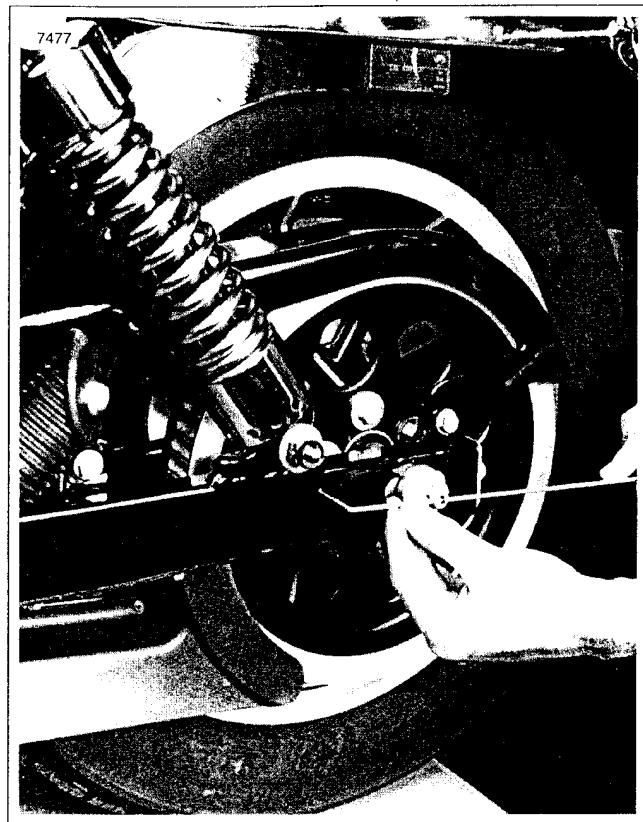

Figure 2-61. Measuring Alignment
4. See Figure 2-61. With the blunt point of the alignment tool inserted in the rear fork pilot hole, slide the rubber grommet along the tool until it is aligned with the center of the axle as shown. Repeat for the other side of the motorcycle.